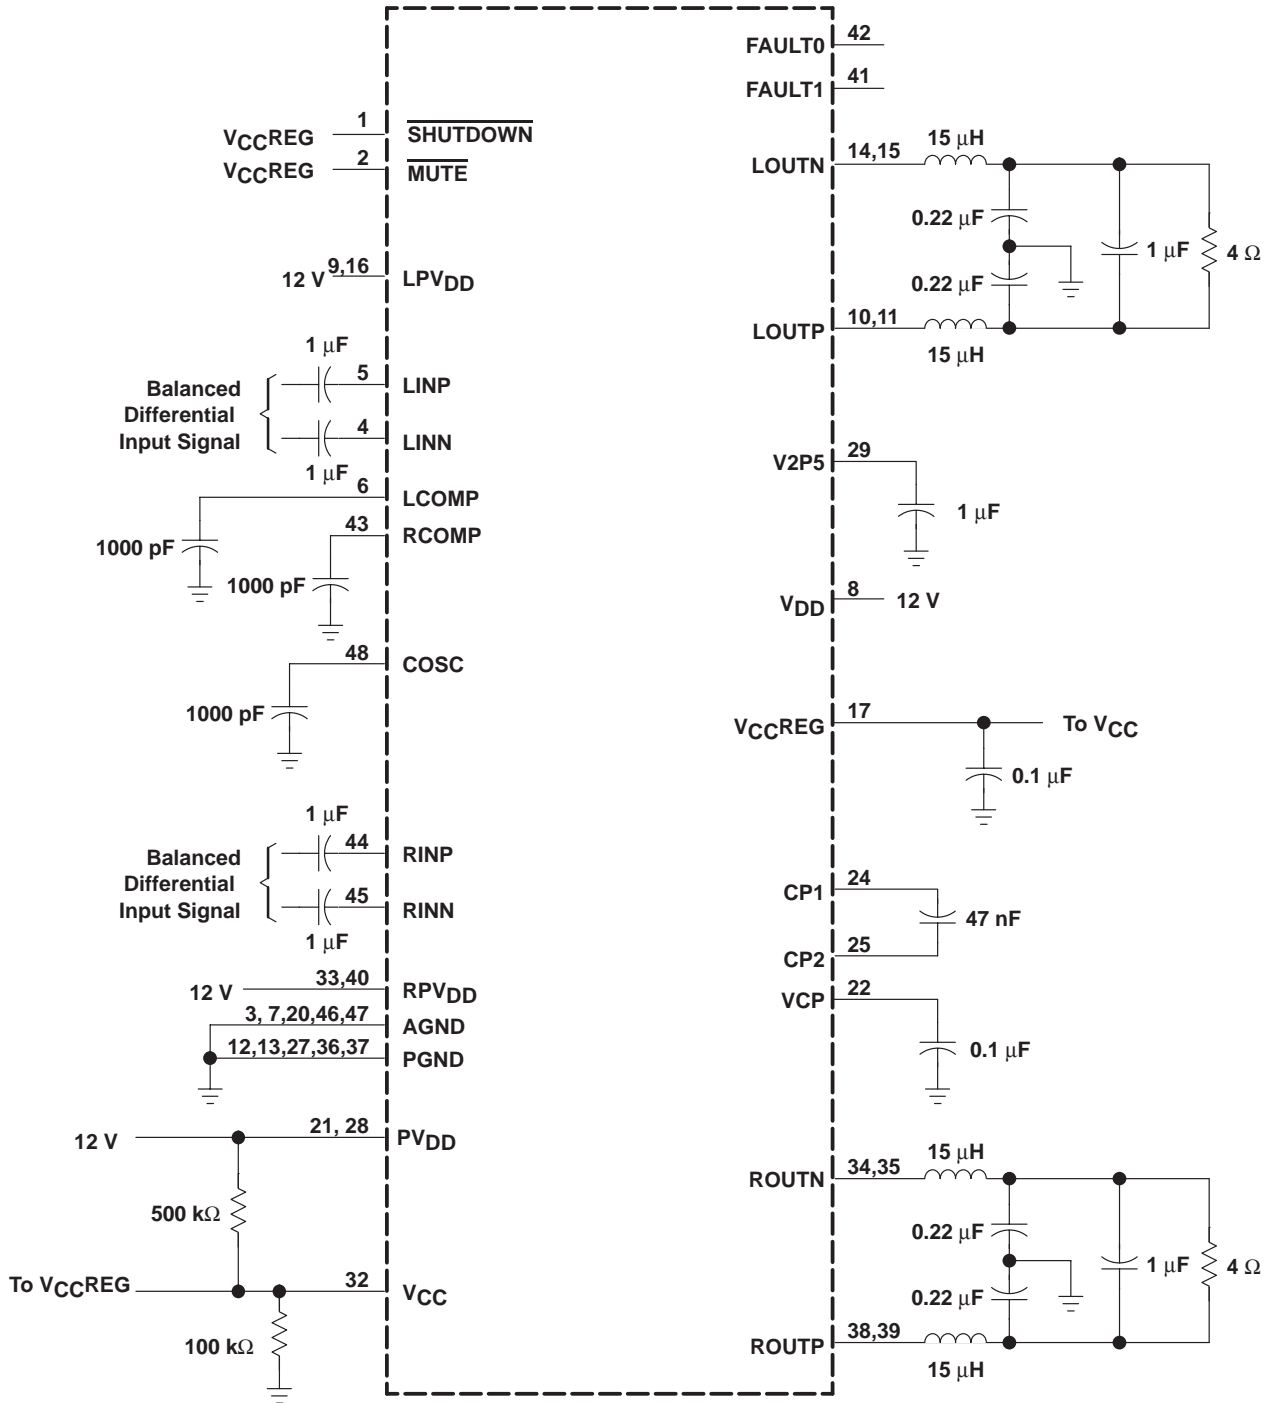

Figure 1. 12-V, 4-Ω Test Circuit
**electrical characteristics Class-D amplifier,  $V_{DD} = PV_{DD} = LPV_{DD} = RPV_{DD} = 12\text{ V}$ ,  $R_L = 4\ \Omega$  to  $8\ \Omega$ ,  $T_A = 25^\circ\text{C}$ , See Figure 1 (unless otherwise noted)**
**operating characteristics, Class-D amplifier,  $V_{DD} = PV_{DD} = LPV_{DD} = RPV_{DD} = 12\text{ V}$ ,  $R_L = 4\ \Omega$ ,  $T_A = 25^\circ\text{C}$ , See Figure 1 (unless otherwise noted)**